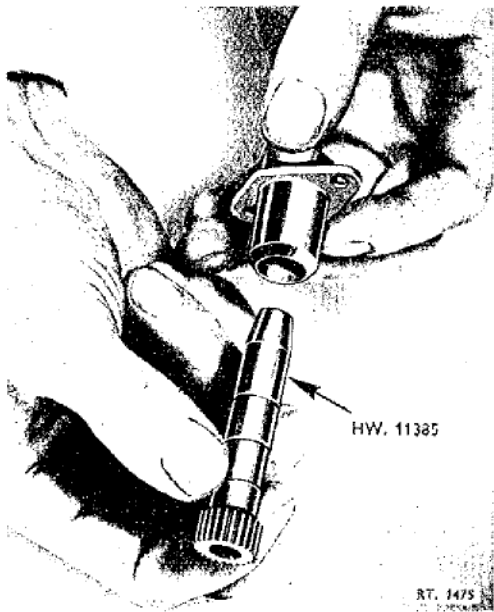

Fig. 9. Fitting sleeve to throttle valve pinion
69. Fit a new rubber seal into the recess in the flanged end of the pinion sleeve, and the assembling cap HW.11385 to the end of the pinion. Insert the pinion into the sleeve (fig. 9). Fit a new joint washer to the flange on the casing then fit the pinion and sleeve assembly with the splines on the pinion meshing with the splines on the throttle valve. To secure the pinion sleeve, fit the double tabwasher, then screw on and tighten, but do not lock, the 2 B.A. nuts.